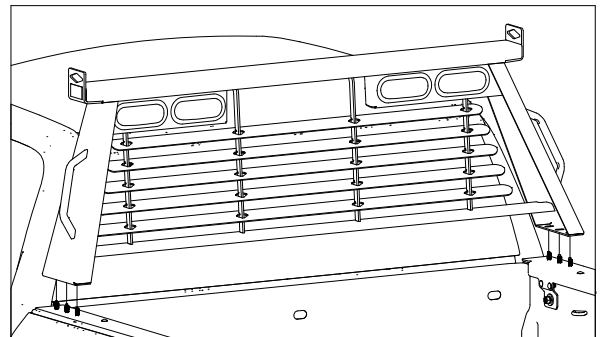

Figure D1: View looking at cab of truck.
- 1. Mount cab protector.** Position the slots on the bottom of the cab protector over threaded studs on the bed protectors, see Figure D1. Fasten the cab protector with the provided 3/8" Large flat washers, lock washers, and finish nuts. Before fully tightening, make sure the cab protector is centered with the truck as viewed from the rear. Then tighten the 6 nuts on the cab protector to 20 ft-lbs. Do not overtighten.